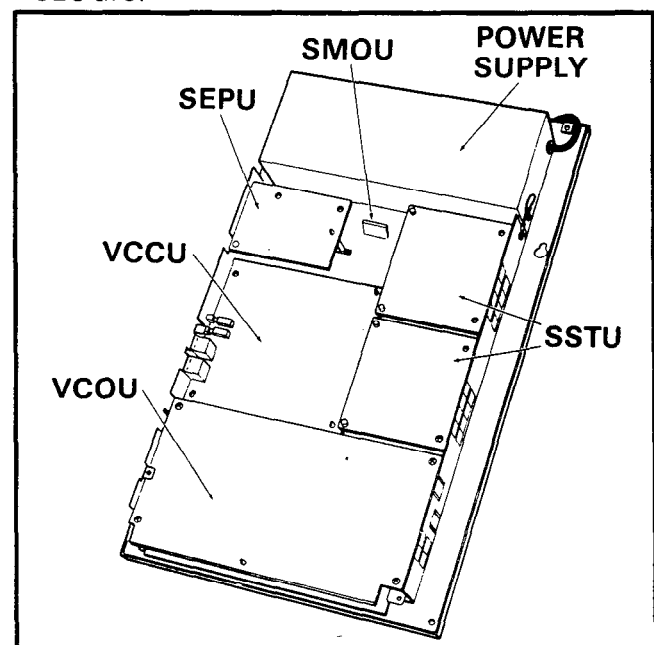

FIGURE 4—HKSU (with PCBs)
04.11 A maximum of seven PCBs can be installed in the *Strata VIe* HKSU, as shown in Figure 4. The functions of these PCBs are: